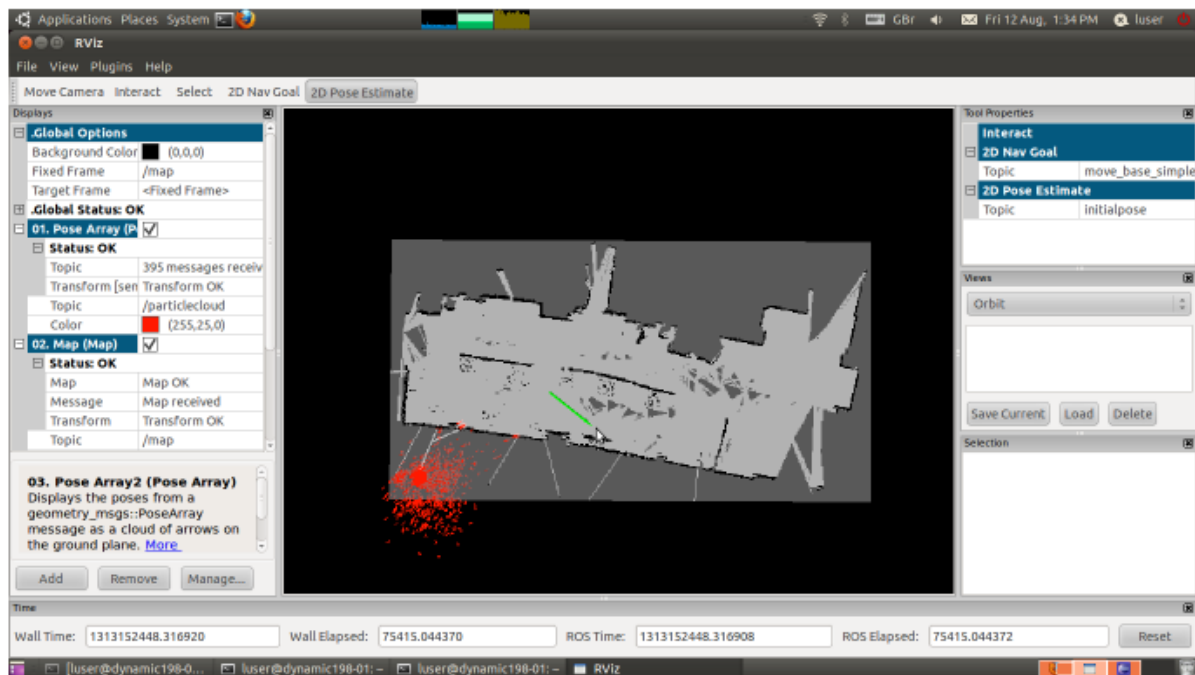

Figure 2.1
- Finally, click the *2D Pose Estimate* button, then draw an arrow on the map showing the approximate location and direction in which your robot is facing (example in Figure 2.1).